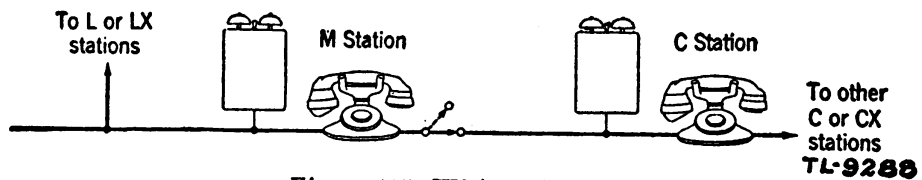

Figure 105. Wiring plan 100.
b. **KEY CUT-OFF PLANS.** Plan 100 is a 1-line plan in which *M* station has a key permitting it to cut off one or more *C* or *CX* stations. If an *L* station is provided and its bell is within hearing of *M* station, the bell at *M* station may be omitted. (See fig. 105.)